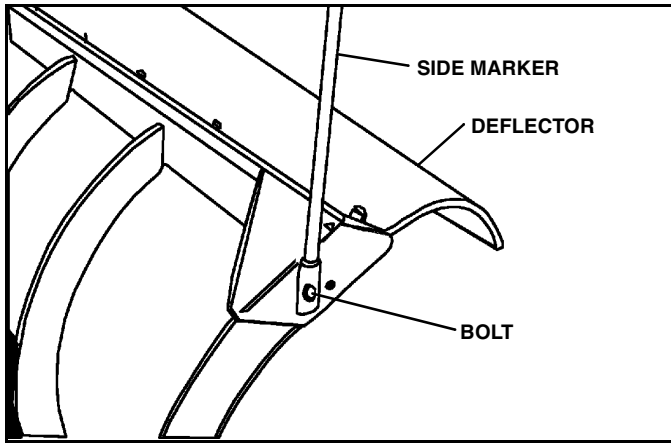

Figure 1-5
6. Install deflector at this time. Refer to mounting instructions supplied with the deflector kit. Install blade guides (blade side markers) to holes in outside blade ribs, secure using hardware supplied with blade guide kit. (See Figure 1-5)